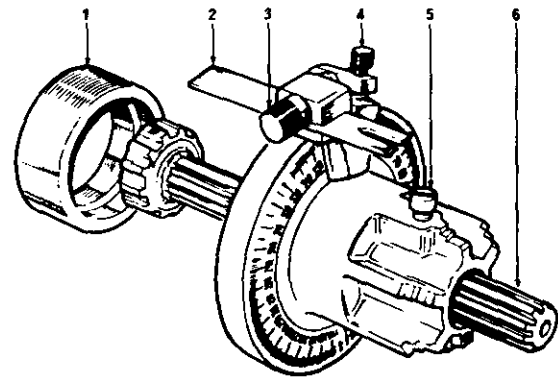

Fig. H.6
3. Release screw (5, Fig. H.6) of timing tool MS67B and remove splined shaft (6). The adaptor ring (1) is not used with this engine type.
4. Ensure slotted pointer (2) of timing tool is positioned with slot to front of tool and chamfered sides of slot outwards. At this stage, slotted end of pointer should be kept well back from front of body. Ensure that flat of washer fitted behind pointer securing screw (3) is located over pointer.
5. Release bracket securing screw (4) and set bracket so that the chamfered edge is in line with relevant engine checking angle (see Page A.9).
1. Release screw (5, Fig. H.6) and position splined shaft with the small splined diameter to rear to locate in centre of the fuel pump hub.
2. Ensure that slotted pointer (2) is positioned with slot to rear of tool and chamfered sides of slot outwards. At this stage, slotted end of pointer should be kept well back towards body of tool. Ensure that flat in washer fitted behind pointer securing screw (3) is located over side of pointer.